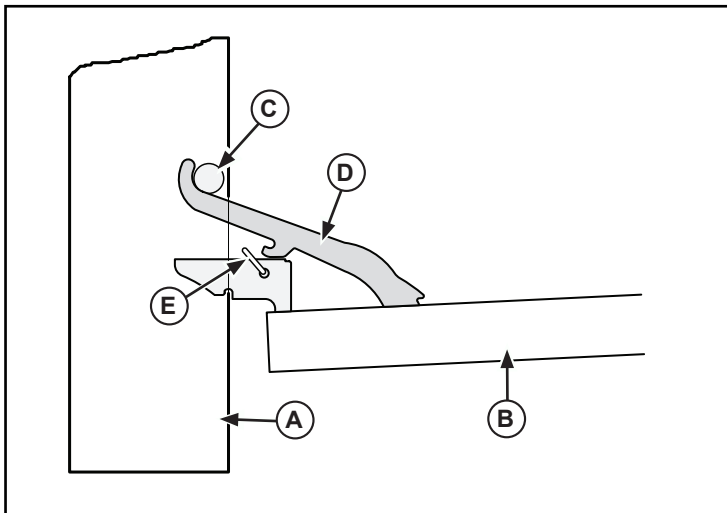

Figure 1. Oven Door and Hinge Lock (down or back position)
4. Open the door (B). See Figure 1.
5. Note the down or back position of hinge locks (E). Check that both sides are in this position.